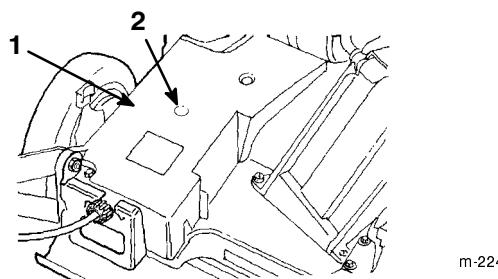

Figure 34
2. Install a grease gun onto the fitting through the belt cover opening (Fig. 34).